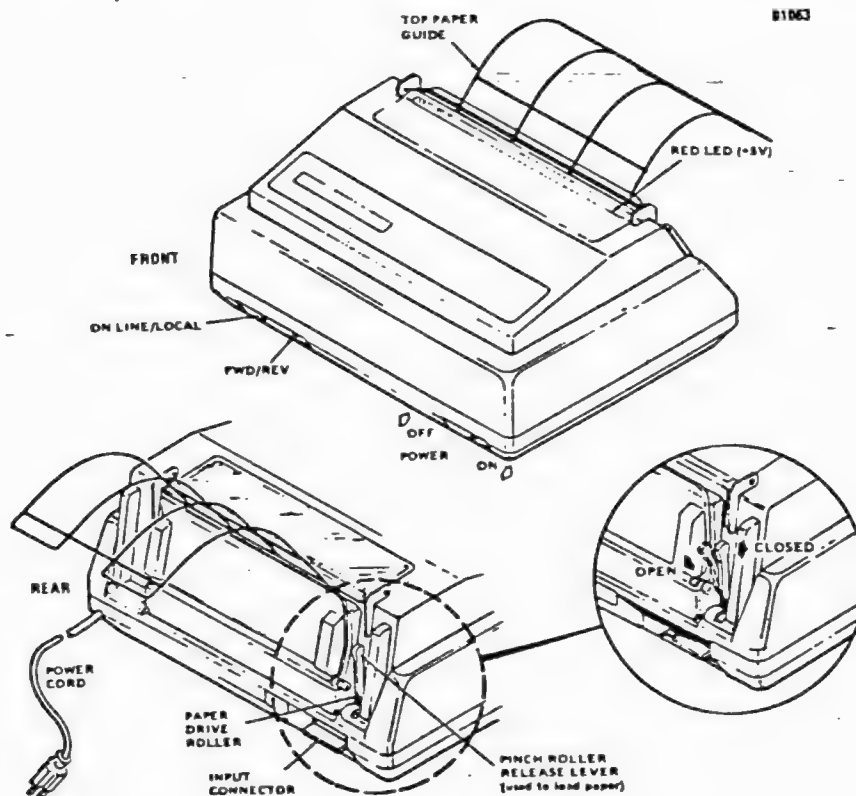

Figure 2-1 Set-Up Procedures
2.2 SET-UP PROCEDURES (Figure 2-1)
7. Push the pinch-roller release lever towards rear of printer. (Figure 2-1).